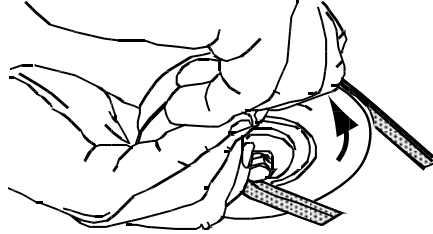

Figure 4-11
9. Pull the right side of the belt and place the narrow V side of the belt into the PTO pulley. See Figure 4-11.